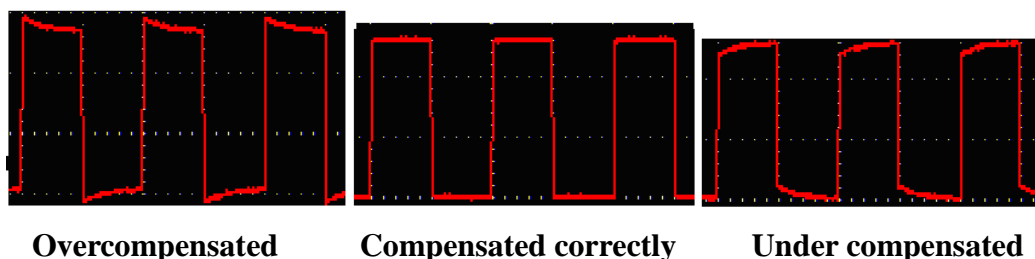
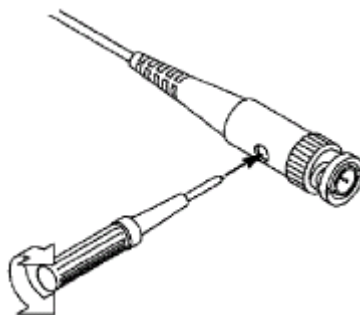

Figure 3-7 Displayed Waveforms of the Probe Compensation
Figure 3-8 Adjust Probe
2. Check the displayed waveforms and regulate the probe till a correct compensation is achieved (see Figure 3-7 and Figure 3-8).